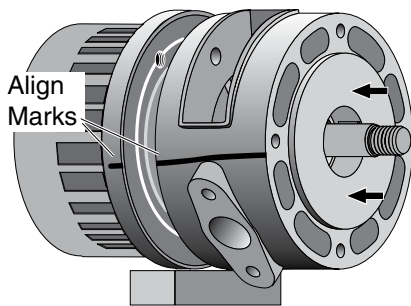

Figure 23
- Step 4. *Carefully* slide the adapter over the shaft (see Figure 23). Do not damage the shaft sealing surface; it is highly polished and any slight scratches or nicks will ruin it.